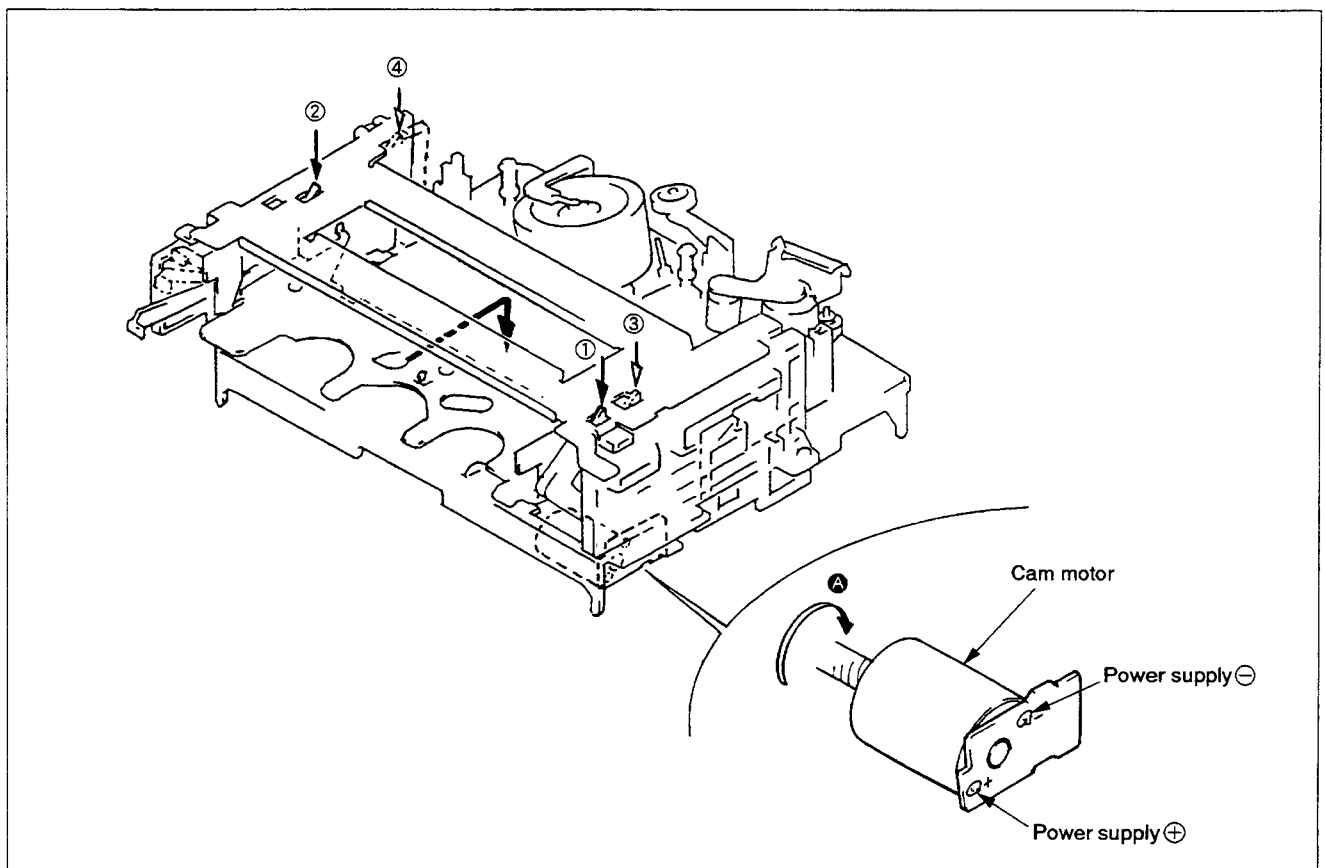

Fig. 1-1
| 1-1.           | Loading and Threading Procedure When the PowerTurns Off (Fig. 1-1)              | 3           | 3-12.          | RVS Brake Arm Assembly,Reel Table (T) Assembly (Fig. 3-14)                  | 22          |
### 1-1. LOADING AND THREADING PROCEDURE WHEN THE POWER TURNS OFF (Fig. 1-1)